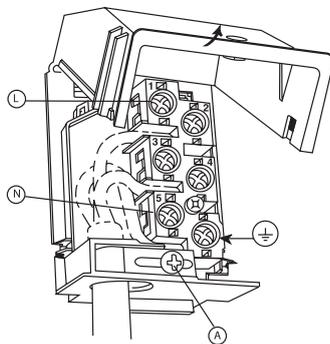

fig.15
- Open the junction box (see fig. 15).